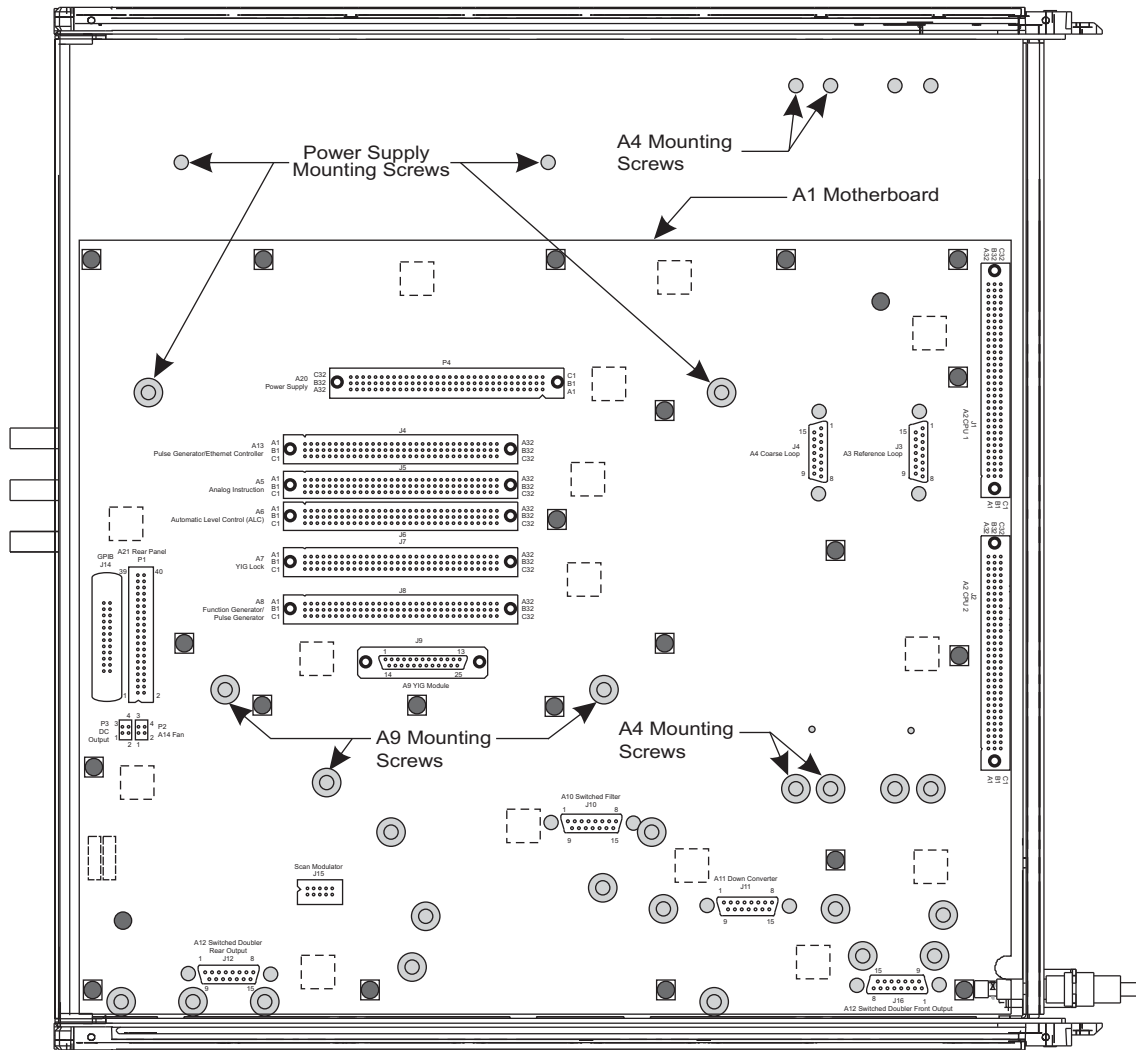

Figure 7-8. Location of Retaining Screws for A4 PCB Assembly and A9 YIG Assembly
2. Turn the chassis upside down and locate the four retaining screws for the A4 board assembly. Refer to Figure 7-8.
2. Turn the chassis upside down and locate the three retaining screws for the A9 YIG assembly. Refer to Figure 7-8 on page 7-14.